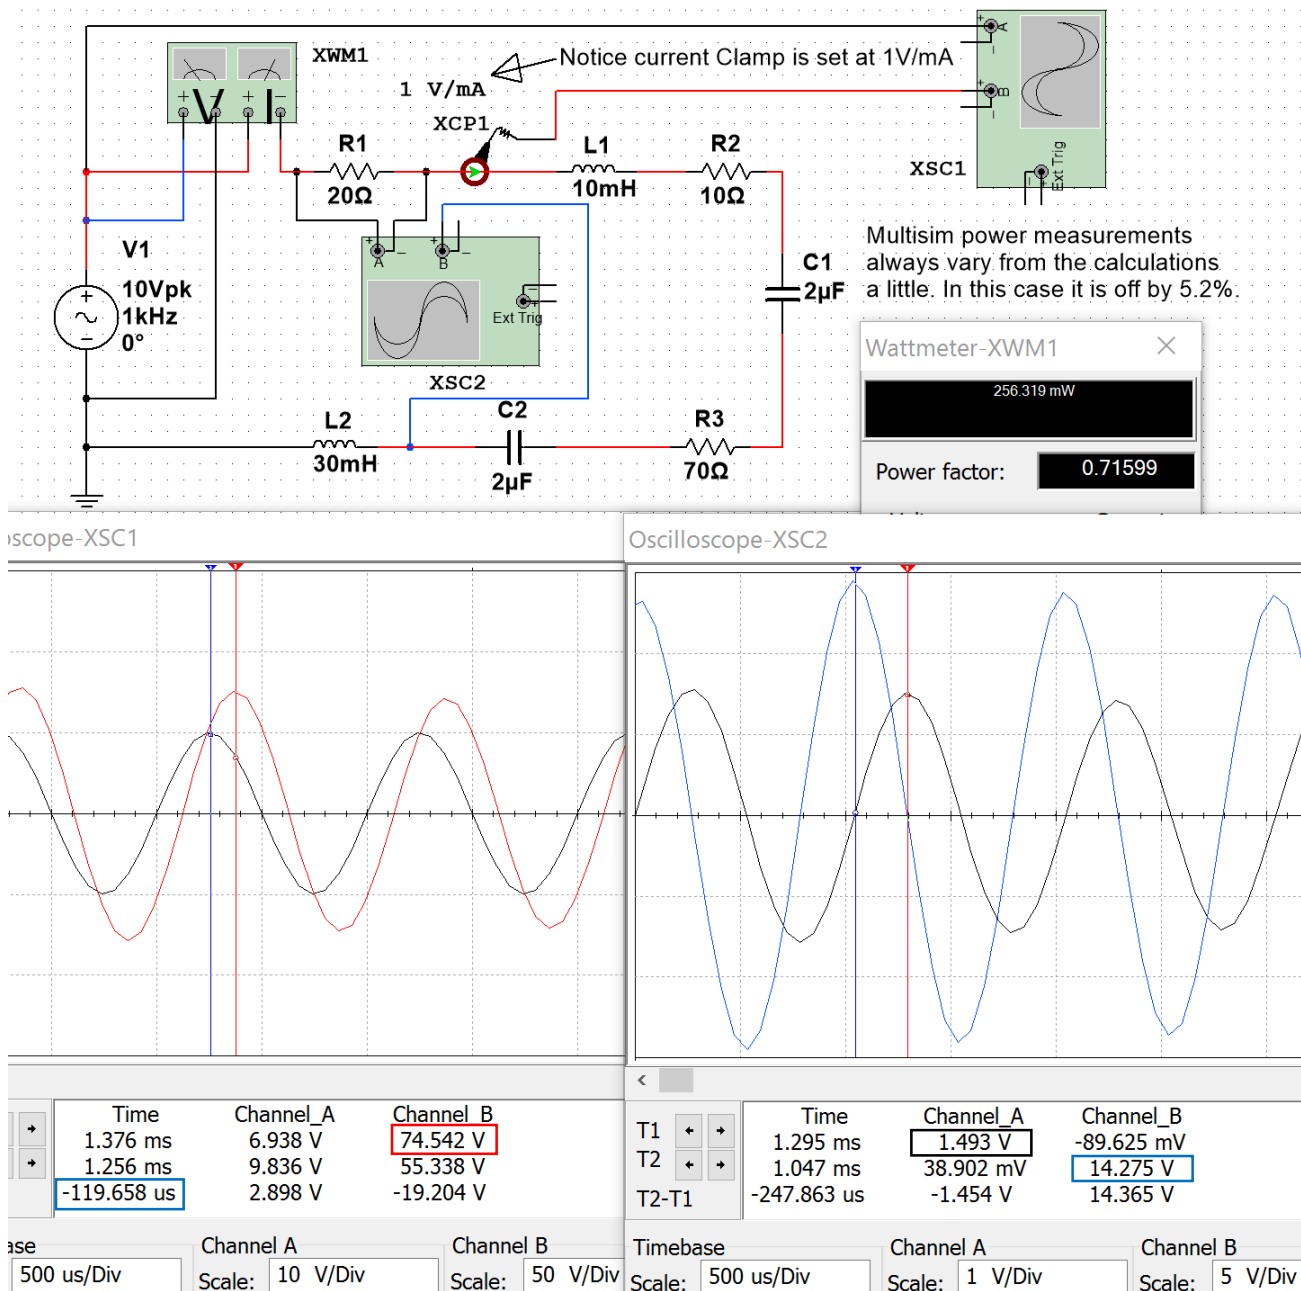

Figure 3.21: Circuit for Example 3.9
- Figure 3.21 shows V_{R1} and V_{L2} are 90° out of phase. Calculations agree $\rightarrow \theta_{V_{L2}} - \theta_{V_{R1}} = 47.33^\circ - -42.67^\circ = 90^\circ$